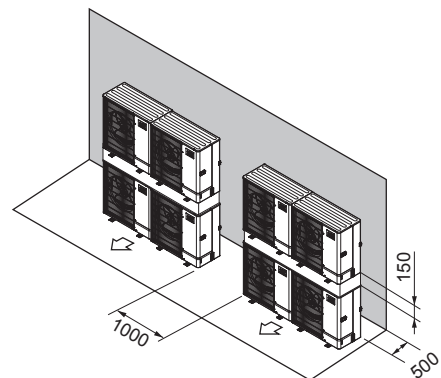

Fig. 1-34
- ⑦ Stacked unit arrangement (Fig. 1-34)